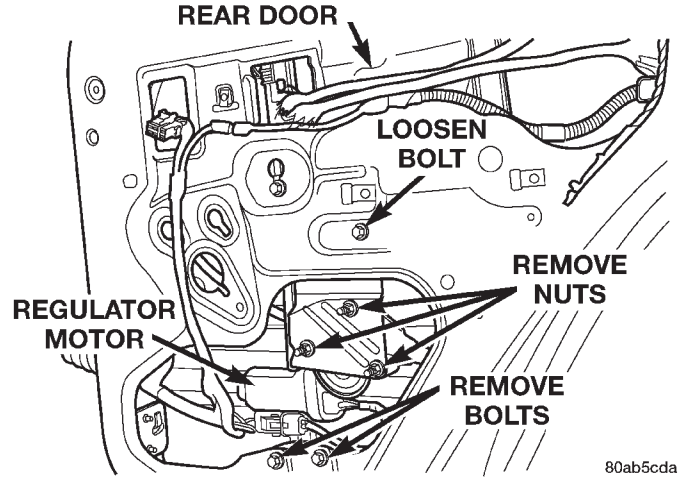

Fig. 59 Rear Door Window
- (4) Remove the lower bolts attaching the regulator to the inner door panel (Fig. 59).
- (5) Remove the nuts attaching the regulator motor to the inner door panel, if equipped.
- (6) Loosen the upper bolt that attaches the regulator to the inner door panel.
- (7) Disconnect the wire harness connector from the regulator drive motor, if equipped.
- (8) Remove the regulator and drive motor, if equipped.